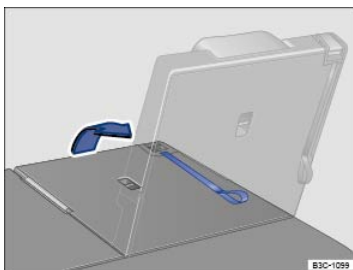

Fig. 88 In the third row: Strap to raise the third row seat backrest.
- Pull the loop on the backrest ⇒ Fig. 88 to fold the backrest into place. **OR:** From inside the vehicle, push the lever up and, at the same time, push the backrest into place with your hand.
- If the loop on the backrest ⇒ Fig. 88 is attached too tightly to the backrest, the backrest may not securely latch. Detach the loop and try to latch the backrest again.